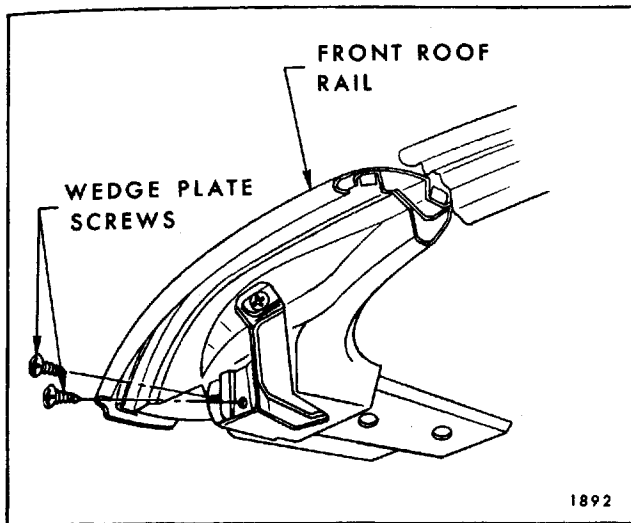

Fig. 6-86—Front Roof Rail Wedge Plate
2. Remove wedge plate by removing inboard and outboard attaching screws (Fig. 6-86).